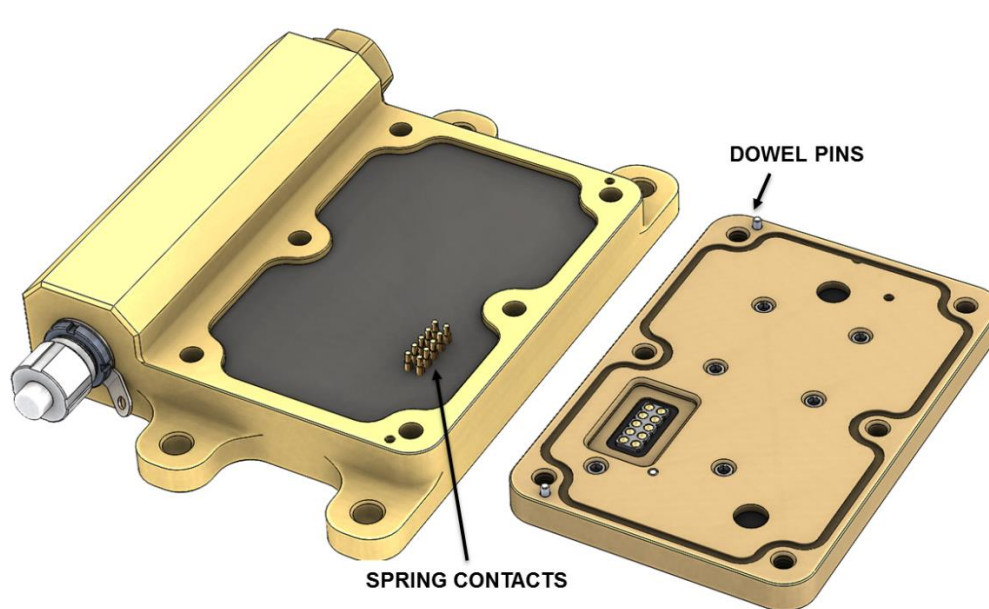

Figure 3. Acuity LS base (left). Electrical spring contacts connecting base to LSP (right).
2. Orient the LSP so that its two metal dowel pins align with the mating holes in the Acuity base (Figure 3).